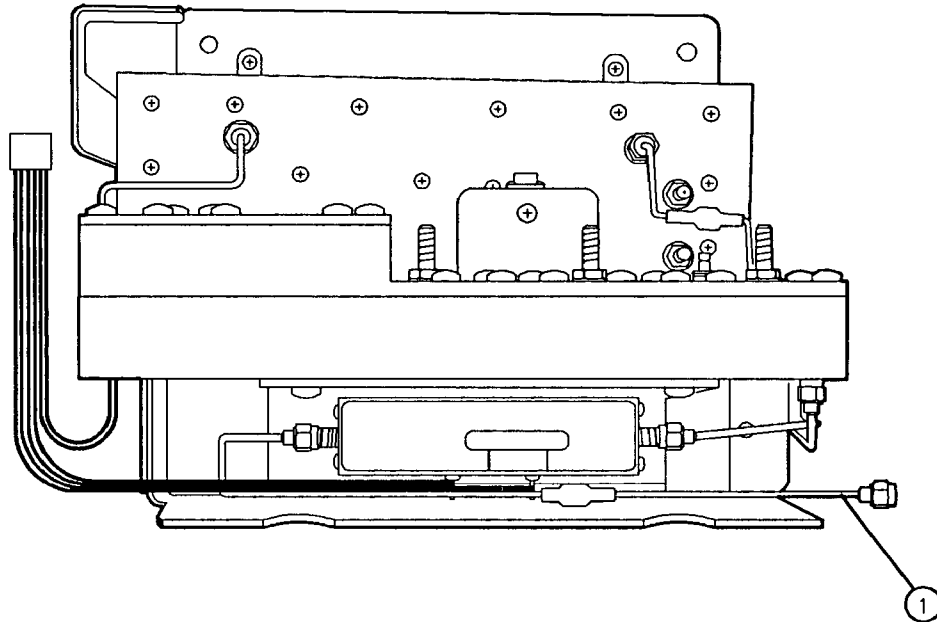

Figure 3-24. Removing the Semi-Rigid Cable W10
1. Remove the semirigid RF INPUT cable W10 (1) from the RF section. See Figure 3-24.